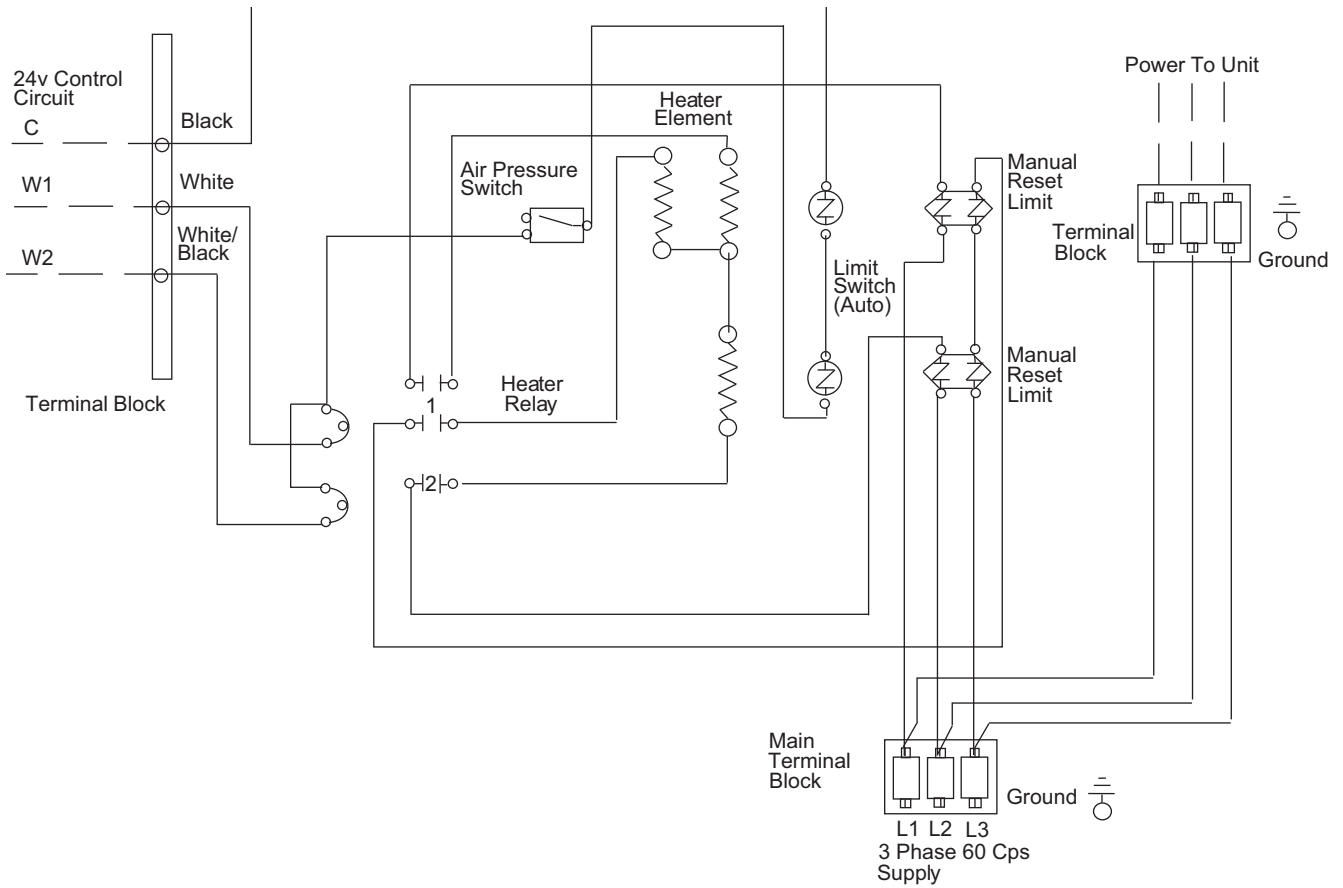

**Fig. 93 — Modulating Heat Wiring Diagram**
To avoid internal damage to the TR1, Transformer No. 2 (see Fig. 93) secondary must not be grounded in any portion of the circuit external to the A1093/SC30. A separate, independent transformer is recommended.
When the system is powered up 24 VAC will be applied to the ignition control (IC) terminals 24VAC/R and to the Timer Relay Control (TR1). The ignition control will reset, perform a self check routine, initiate full time flame sensing, flash the diagnostics LED for up to four seconds and enter the thermostat scan standby state. The amber light on the TR1 will be lit indicating it is in the ready position. See Fig. 93.